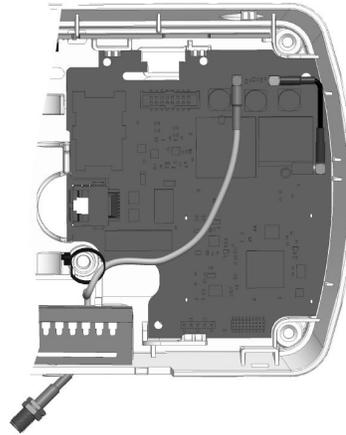

Figure 4: Installing the antenna connector
1. Insert the small end of the antenna connector through the opening above the terminal block (see Figure 4:).